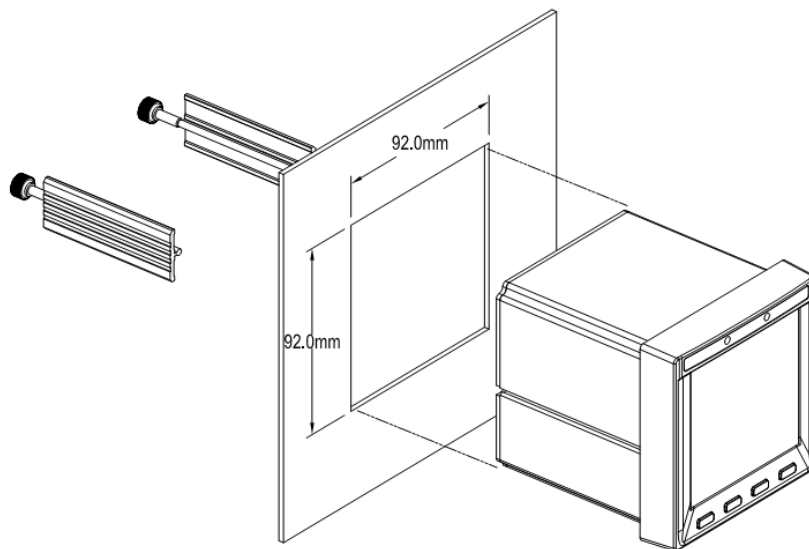

Figure 2-3 Panel Cutout
- Fit the meter through a 92mmx92mm cutout as shown in Figure 2-3